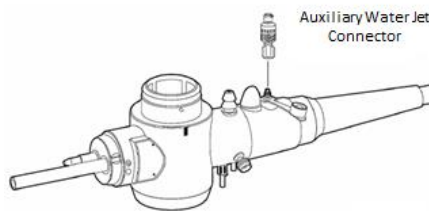

Figure 2
- Attach the Auxiliary Water Jet Connector to the auxiliary water port by screwing it onto the port (See figure 2). When attaching the Auxiliary Water Jet Connector to the port, take